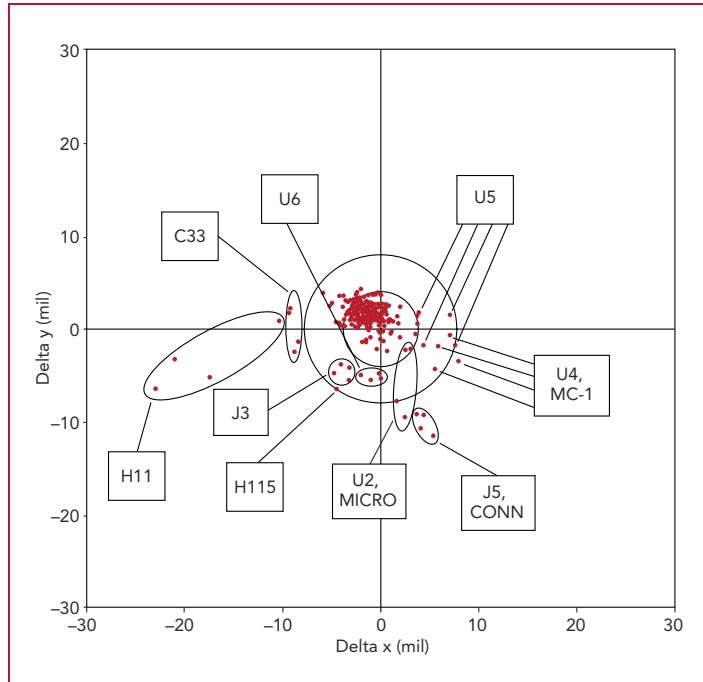

FIGURE 4. A scatter plot shows the difference between expected and actual part position as measured by AOI equipment for one board.
case, we reviewed all the part-placement information for one type of PCB. A scatter-plot diagram (Figure 4) shows the difference between the expected and the actual part locations. (The scatter plot shows PCB reference designations rather than package types.)
The chart in Figure 4 also shows that the component-placement equipment
• **Part-level analysis across boards.** Although the plot in Figure 4 suggests a centering problem, information such as this may not tell the whole story. Further investigations showed the component-placement